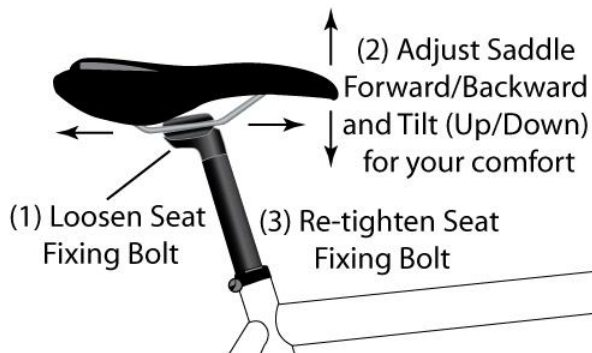

Figure 13 – Saddle Adjustment
- (1) **Adjust Forward/Backward and Up/Down Position** (See Figure 13). Loosen the Seat Fixing Bolt and adjust angle and fore-aft position. Most people prefer a horizontal saddle. Make sure to tighten completely. When properly tightened, the seat post cannot be rotated in the frame.
- **Check Height and Angle** – make sure they are adjusted correctly. (See Figure 12 on page 18, and Figure 13 on page 18, and the accompanying text.)